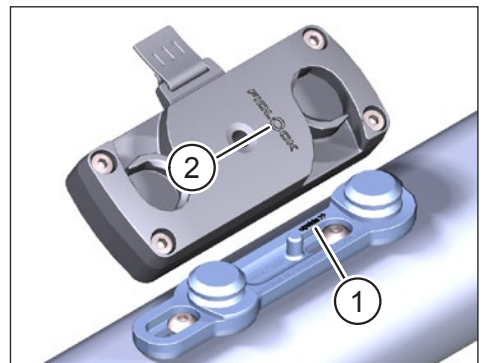

Fig. 2: Orientation of FIDLOCK® Bike Base and FIDLOCK® Force Connector
- ▶ Observe the inscription engraved "**upside >>**" when mounting on the FIDLOCK® Bike Base (Pos. 1 in Fig. 2). The upper edge of the FIDLOCK® logo (Pos. 2 in Fig. 2) on the FIDLOCK® Force Connector must point in the direction of the arrow from "**upside >>**".